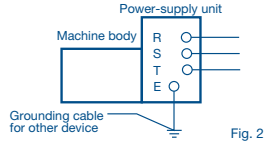

Fig. 2
- Common grounding can be used if noise from other devices will not enter through the common grounding; the grounding cable must be connected independently to the grounding location (Fig. 2).